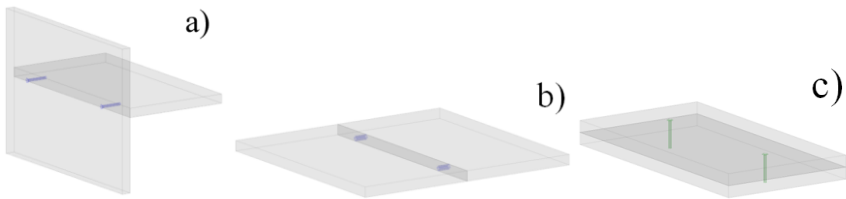

Fig. 3.72 Fasteners insertion methods
- Shelf edge to Part, see fig. 3.72 a)
- Joint edge to edge, see fig. 3.72 b)
- Surface to surface, see fig. 3.72 c)
This command fix two Parts which is jointed edge to edge, see fig. 3.72 6) page 121. The command dialog corresponds to “Shelf edge-Part” dialog, see section 3.8.1 page 121.